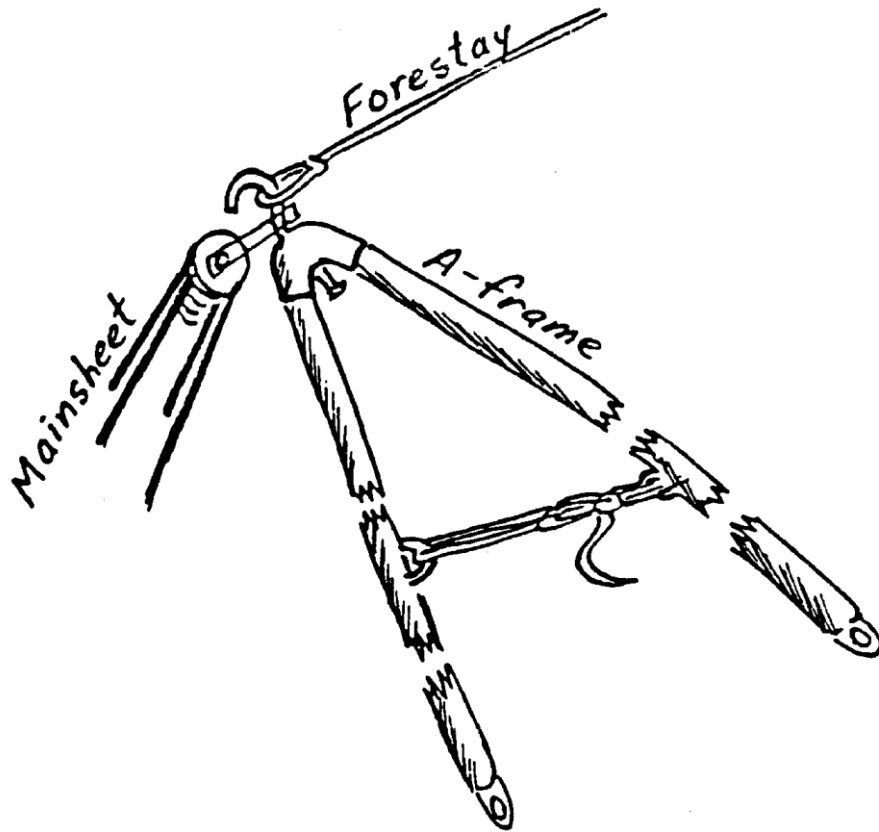

Fig. 4. Important parts of the A-frame.
# A-frame. Each leg is 350.5 cm long (1' 6") from the hole at the foot to the outer tip, so that it just fails to touch the bow fitting for the forestay (Fig. 4). The Albin A-frame was stainless steel, curved to lie conveniently just inside the edge of the foredeck when not being used. It buckled when we used it wrongly; the proper shape and strength could not be restored. It had O.D. of 2.5 cm (1") and walls that were about 1.5 mm (roughly 1/16"). I would recommend something 3 or 4 times as strong with straight legs, since the built-in curve seemed to contribute to the buckling of our A-frame. I intend to make one that comes apart for storage below. Exact design is not crucial, since we once used very successfully two pieces of 2 x 4" lumber lashed together.
- (1) Now is your last chance to put accessories on the mast (wind indicator, aerial, halyards, jib-furling devices on forestay if used, etc.).
- (2) Remove dodger (sprayhood) from boat.
- (3) Put mast hook onto tabernacle rod, lay mast back into stern-crutch.
- (4) Attach the backstay at the deck and dress it ahead of the stern-crutch and through the legs, so as to be correct when the mast is up.
- (5) Attach (at deck) the aft lower shrouds and upper shrouds.
- (6) Make sure there is tape around chainplate loops, to hold up turnbuckles so that they will not get bent.
- (7) Dress and secure halyards to the mast.
- (8) Dress shrouds ahead of the forward cockpit cleats.
- (9) Attach spinnaker halyard to pulpit and cleat the free end.
- (10) Lay back the A-frame, shackle forestay to hook/ring at tip of A-frame.
- (11) Shackle outboard block of mainsheet to the A-frame below hook/ring (Fig. 4). Secure other mainsheet block to the bow fitting.
- (12) Attach the cross-bracing line on the A-frame.
- (13) Insert electrical wires from base of mast part way into hole in step.
- (14) Raise A-frame to vertical, if not there. One person snugs up the mainsheet and stands by at that position.
- (15) The strong person lifts the mast at the stern, standing first in the cockpit then moving forward, eventually standing on cabin, straddling the companionway. Other person keeps tension on the mainsheet but does not attempt to actually lift until the mast is at a good angle, about as high as the strong person can lift it.
- (16) Make sure the electrical wires are okay and will not get pinched. Person holding mainsheet can do this, and adjust them if necessary.
- (17) Haul on mainsheet. Watch for fouled shrouds!!! *If it is hard to lift, something is caught*, so free it before you break something. (A third person is really handy. The person could be used to help with the initial lifting at the stern, but even more useful is to have them watch each shroud and prevent or cure fouling, and also watch electrical wires.)
- (18) When mast is vertical, secure spinnaker halyard for support. Breathe easy!
- (19) Remove mainsheet.
- (20) Secure forestay and forward lower shrouds. Untie spinnaker halyard from pulpit. Tighten standing rigging in usual way.
- (21) Connect electrical wires.